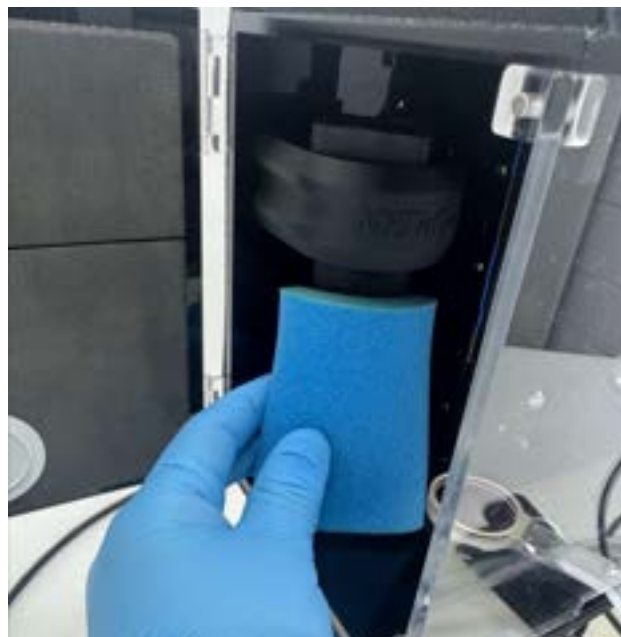

Figure 10: Mounting of humidification sock on humidification fan
STEP 2. If humidifying the enclosure, soak the humidity sock in water. Wring the sock until water just stops dripping from the sock. When finished, mount the sock on the humidification fan (see **Figure 10** below)